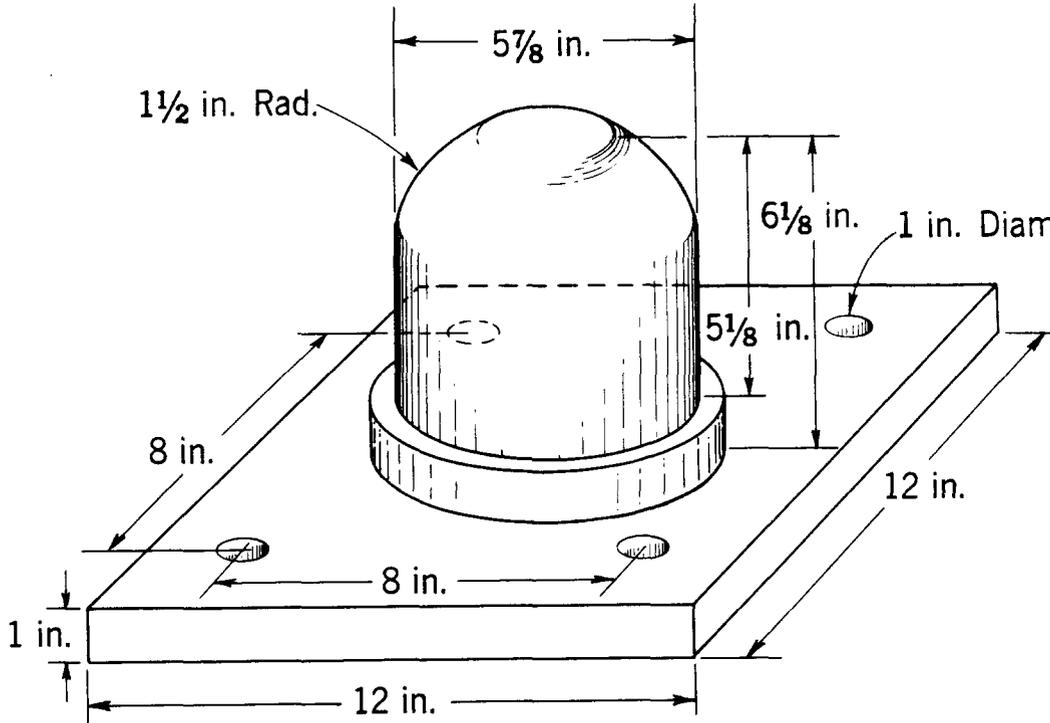

Fig. 3 - Base Shoe
2.02 All sizes of the B Tower employ the same size base shoe, and require the same spacing of anchor bolts on each pier. Details of the base shoe are shown in Fig. 3. The base of the tower is equipped with a socket which fits over the large rounded steel pin in the middle of the base shoe. Four 3/4 by 18 inch bolts are used to secure the base shoe to the foundation. (The bolts are component parts of the B Guyed Tower Anchor.)